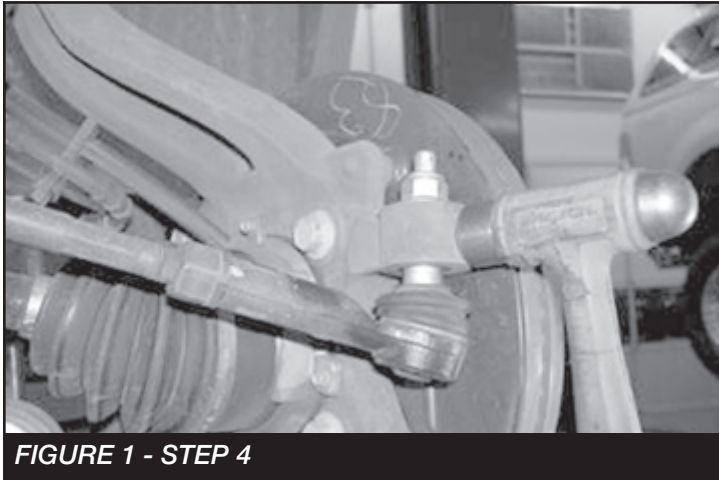

FIGURE 1 - STEP 4
4. Working from the driver side of the vehicle, disconnect the tie rod ends from the steering knuckle by striking the knuckle to dislodge the tie rod end. **SEE FIGURE 1**